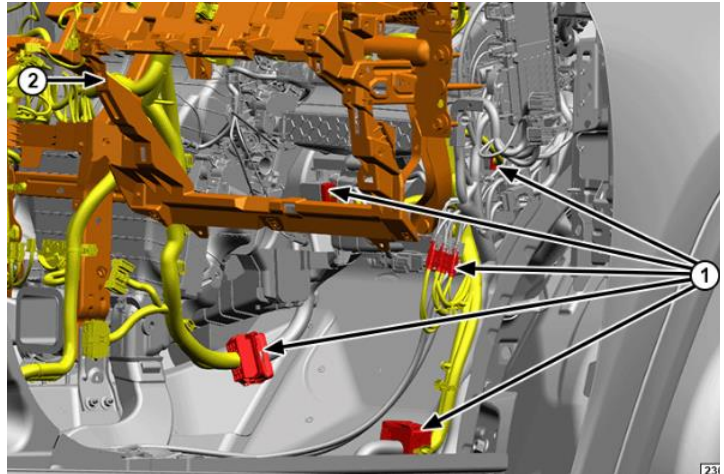

Figure 10 – Wire Harness Connectors
24. Position the carpet aside on the passenger side and disconnect the wire harness connectors (1) (Figure 10).
18. Position the carpet aside on the passenger side and connect the wire harness connectors (Figure 10).